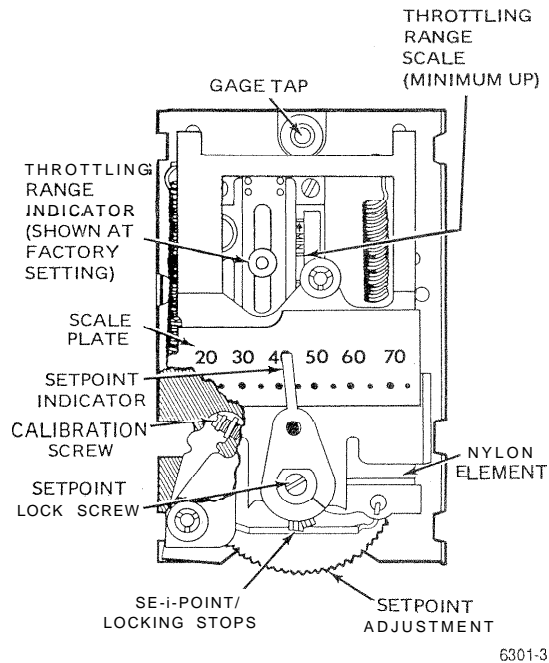

Fig. 4. Humidistat with the Cover Off and Showing the Adjustment Points.
- ① Loosen the setpoint lock screw (Fig. 4).
- ② Move the setpoint locking stops to the desired position.
- ③ Tighten the setpoint lock screw.
- ④ Check the stop positioning by turning the setpoint adjustment.
- ① Ensure the system is stabilized and the main air is maintained at normal pressure between 13 and 21 psi (90 and 145 kPa). Factory calibration is 18 psi (125 kPa).
- ② Remove the Humidistat cover.
- ③ Install the Pressure Gage into the gage tap (Fig. 4) using the Gage Adapter.
- ④ Measure the rh with an accurate rh measuring device.
- ⑤ Use the setpoint adjustment to set the setpoint indicator at the actual relative humidity.
- ⑥ Adjust the calibration screw (Fig. 4) until the Pressure Gage reads 0 psi (0 kPa).
- ⑦ Readjust the calibration screw slowly until the Pressure Gage reads 8 ± 1 psi (55 ± 7 kPa).
- ⑧ Allow sufficient time for a complete response and stabilization, then recheck pressure. The Humidistat is now calibrated.
- ⑨ Remove the Pressure Gage and Gage Adapter.